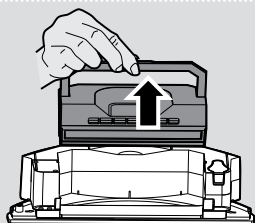
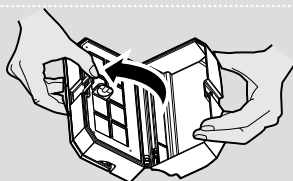
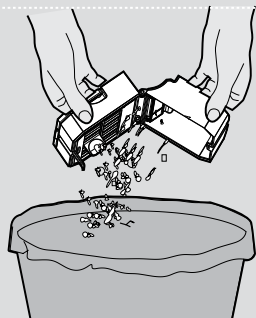
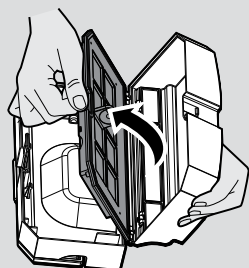

Fig. 10
Fig. 11
Fig. 12
Fig. 13
2. Lift up the dust container through the handle, [Fig. 10] open the dust container where indicated releasing the clip, [Fig. 11] Empty the dust container over a dust bin. [Fig. 12]
2. Remove dust container and empty it. [Fig. 10,11,12] Open the dust container, remove EPA filter from filter mesh and clean them separately. The assembly is done in reverse order, make sure the filter is assembled correctly. [Fig. 13,14]